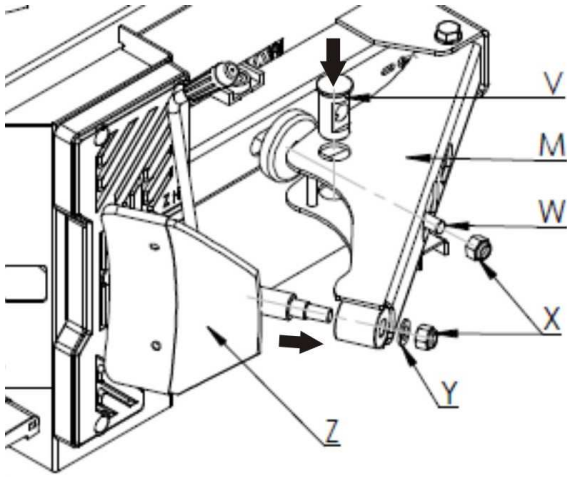

Fig.6-c
- Step 3, Bead breaker cylinder rod casing installation. Pull out breaker arm M till rod casing V can be put into the breaker arm hole (**note:** Make sure the slot side of bead breaker cylinder rod casing V is on outer side. Let arm go back after bead breaker cylinder rod casing installed. (**note:** Insert Piston rod W through rod casing hole) , Fasten screw when arm lay back as fig.6-c.
- Step 4, Shovel installation. As Fig.6- c. Install shovel Z from inner side to outer side, go through the hole on the arm M, then install washer Y, tighten screw X.